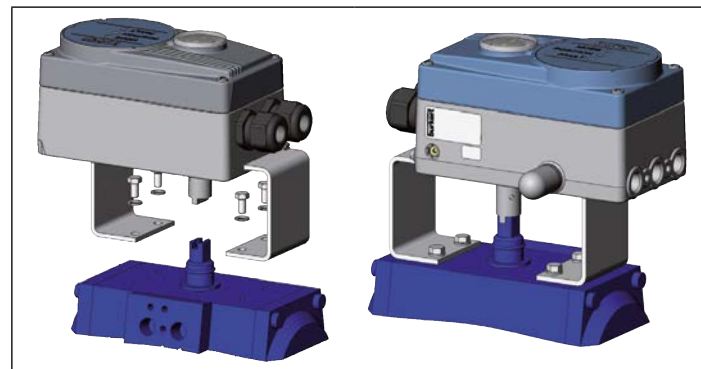

Fig. 13: Rotary actuator attachment
- Place Type 8792/8793 with assembly bridge on the rotary actuator and attach using 4 hexagon bolts ⑥ (see “Fig. 13”).